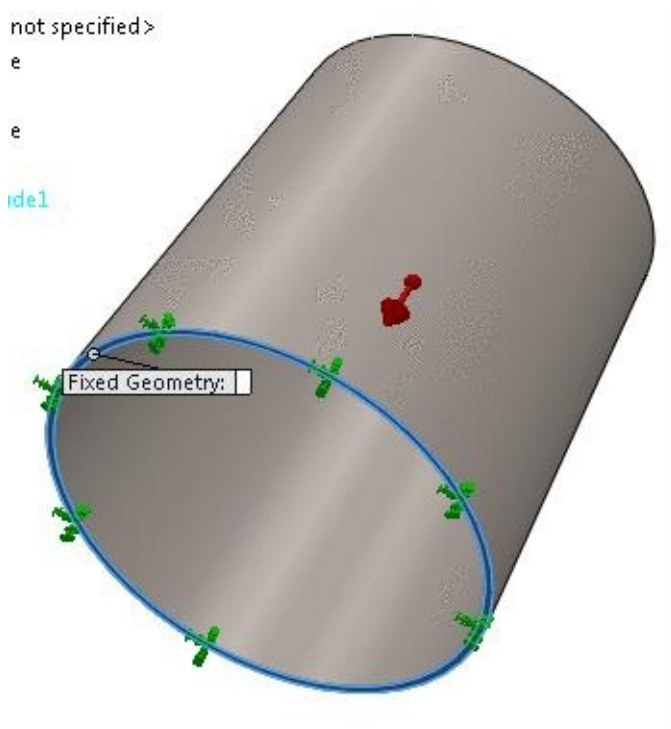

Figure-46. Face selected for fixture
- Select the bottom face of the current model; refer to Figure-46. And click on the **OK** button from the **PropertyManager** to apply the fixture.